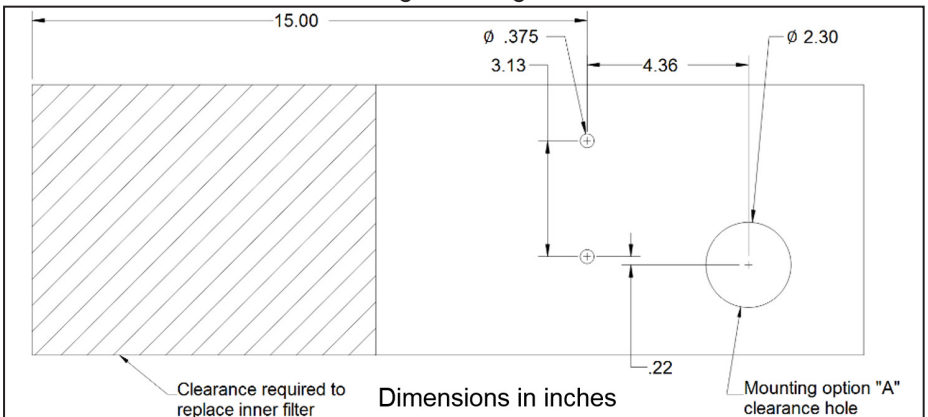

Figure 70 — Installing the remote air intake housing
- ☐ Drill the remote air filter mounting holes (Figure 70).